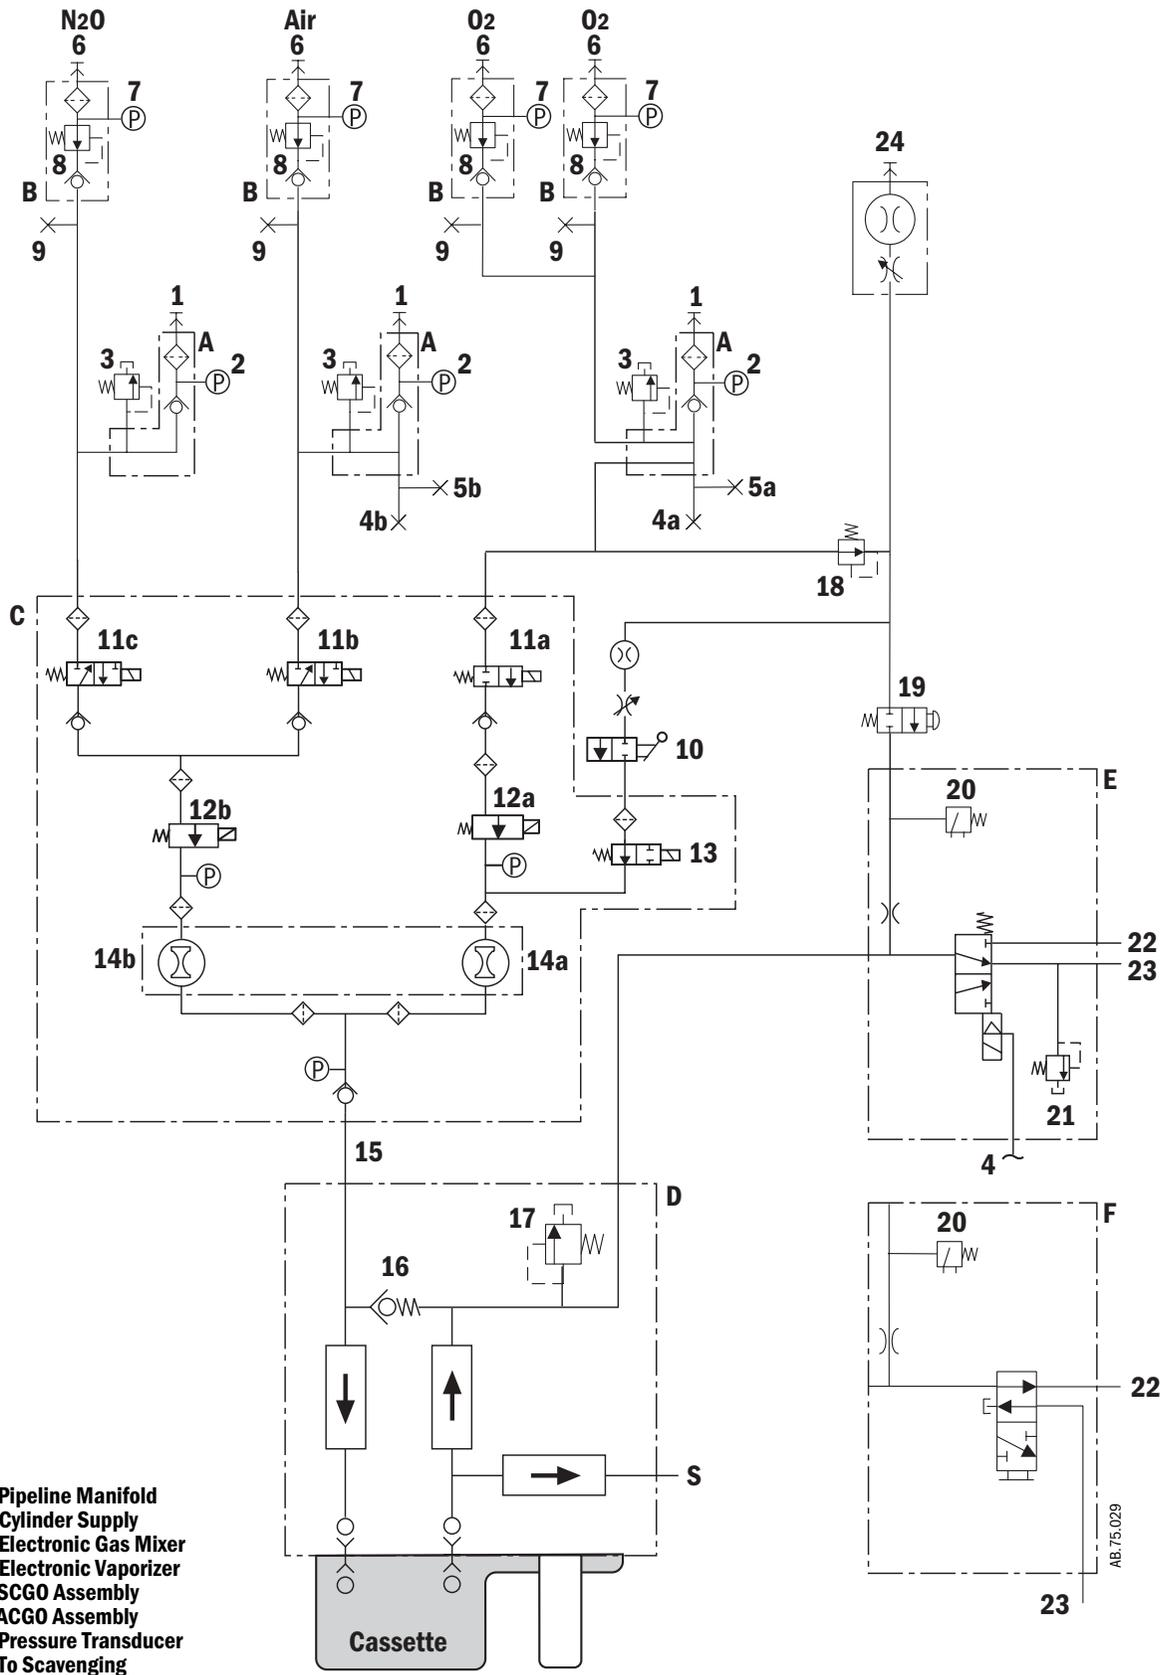
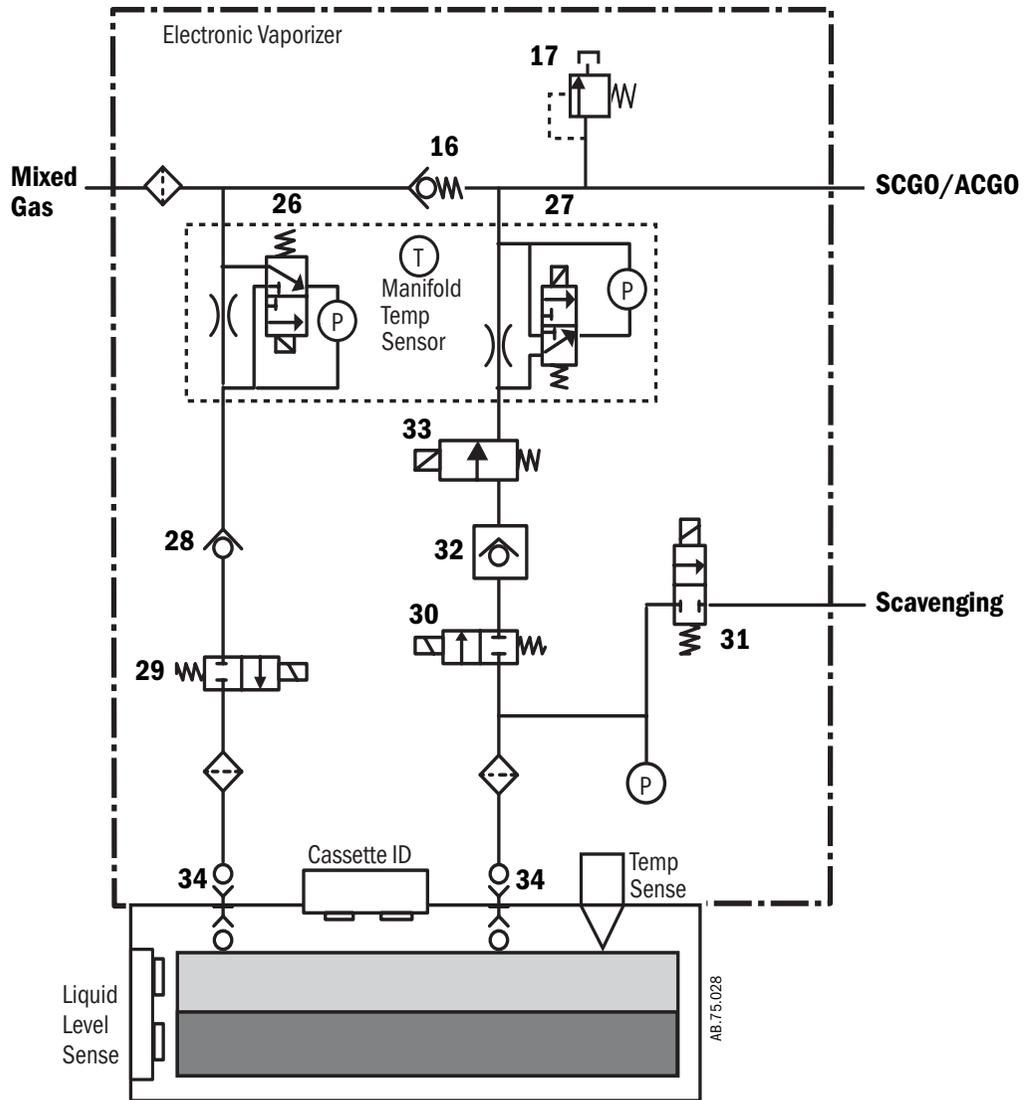

Figure 2-27 • Pneumatic circuit
Figure 2-28 • Electronic vaporizer circuit
2.11.1 Overview Refer to Figure 2-27 and Figure 2-28.